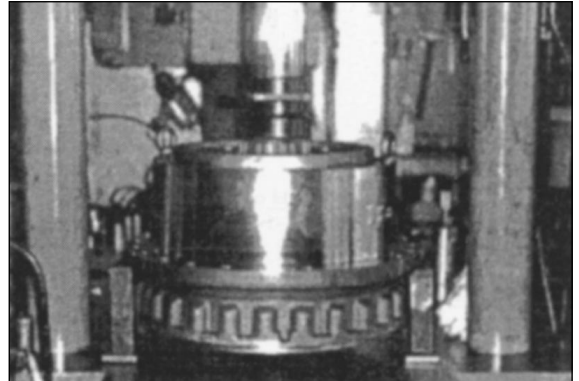

Figure 87
25. Separate hub from reduction gear housing, using press and stopper. Figure 87.